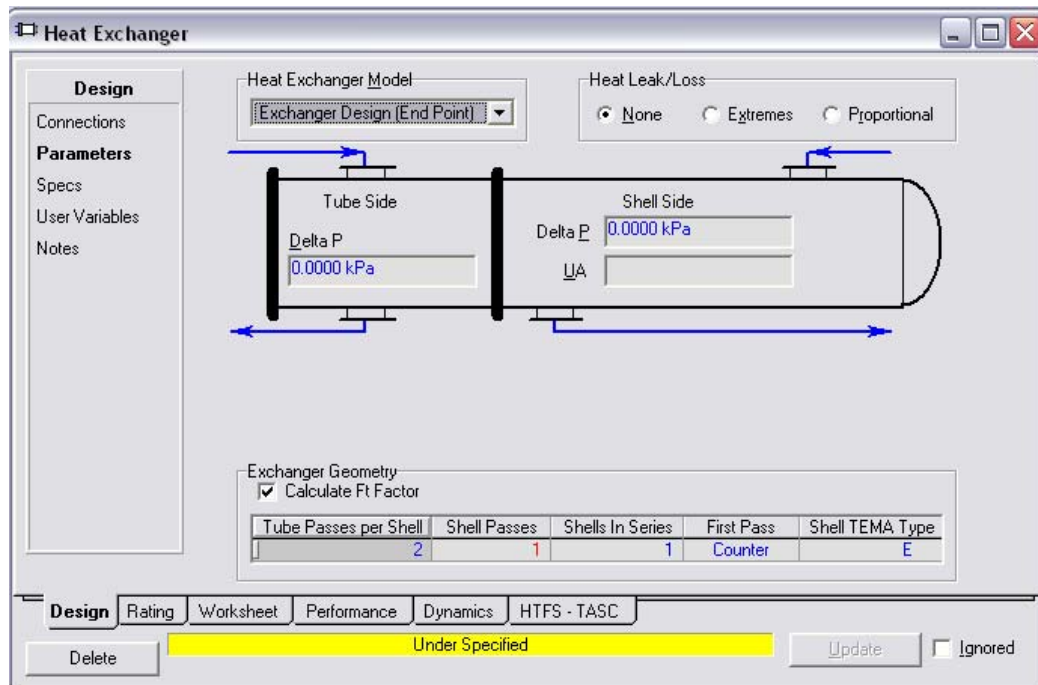

Figure 6-2
3. Switch to the **Parameters** page. Complete the page as shown in the Figure 6-2. The pressure drops for the Tube and Shell sides, will be 0 kPa.